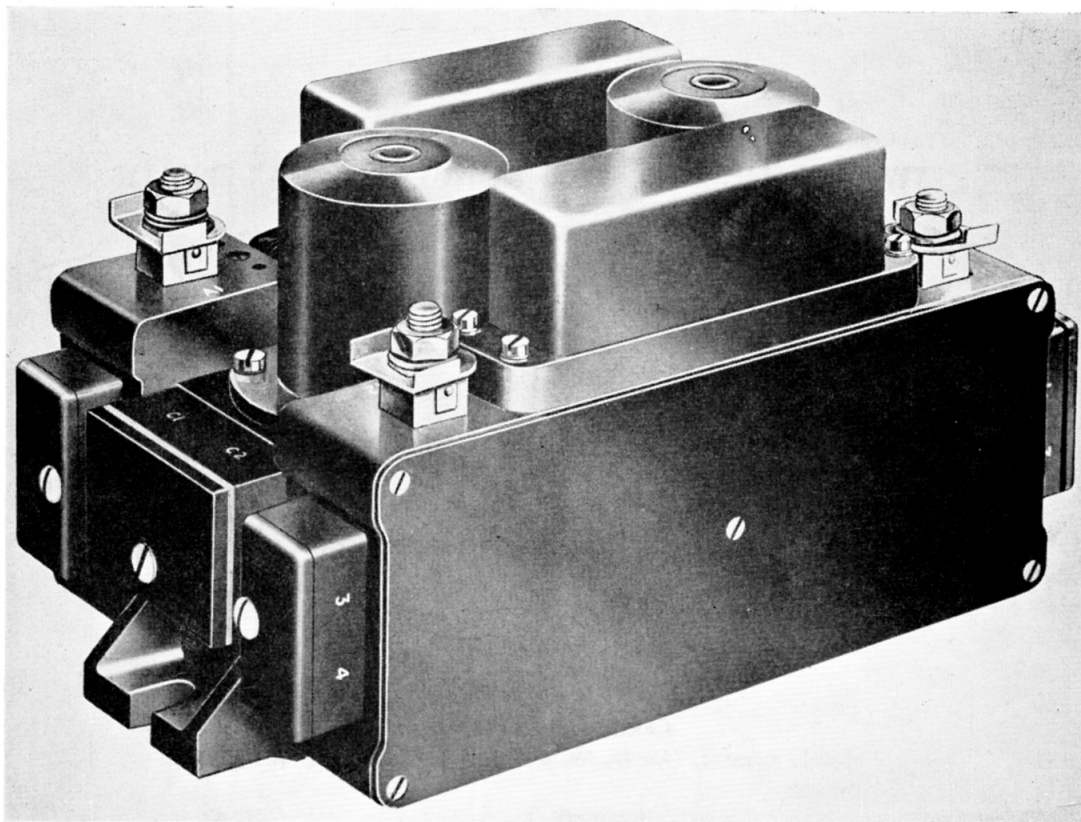

Fig. 1. General view of switch
2. The Type 7A. No. 6 switch (*fig. 1*) is identical to that described in A.P.4343, Vol. 1, Sect. 11, Chap. 13, except that it is fitted with fool-proof terminals.